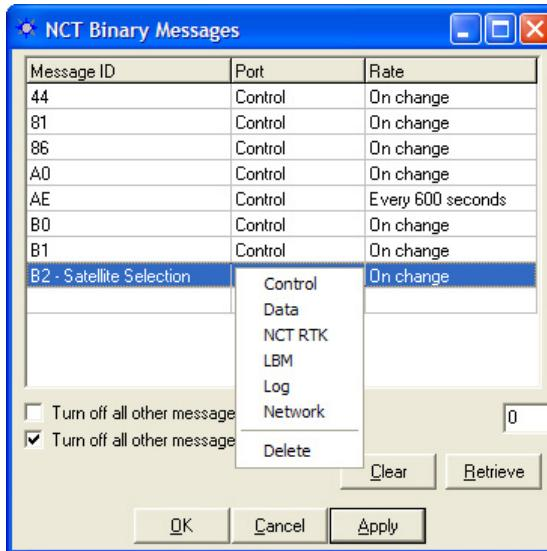

Figure 88: NCT Binary Messages Port Menu
- ✓ **Port:** Right-click on the *Port* cell to select a port, based on where the message is needed, for example, the control port or the data port (see Figure 88). *LBM* is the StarFire™ logical port; never assign any messages for this port without NavCom direction.